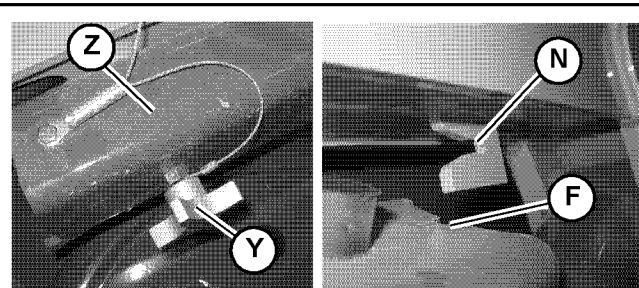

Fig. 90 – Lift Arm Support Storage Position
8. Securely insert notch (F, Fig. 90) on lift arm support (Z) into retaining hook (N) on the lift arm. Secure lift arm support (Z) in the storage position using retaining fastener (Y). Tighten fastener (Y) securely.